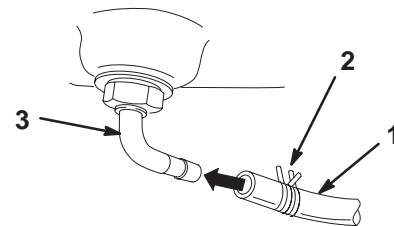

Figure 13
4. Slide the hose clamp onto the fuel line (Fig. 13).
5. Push the fuel line onto the fuel tank connection and secure it with a hose clamp (Fig. 13).